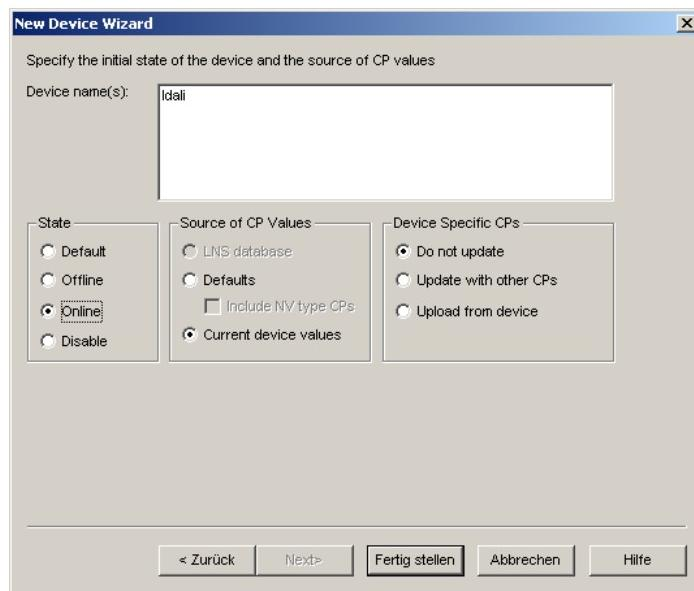

Figure 88: Final dialog.
7. Click **Next** in the following screens until you get to the final dialog shown in Figure 88.